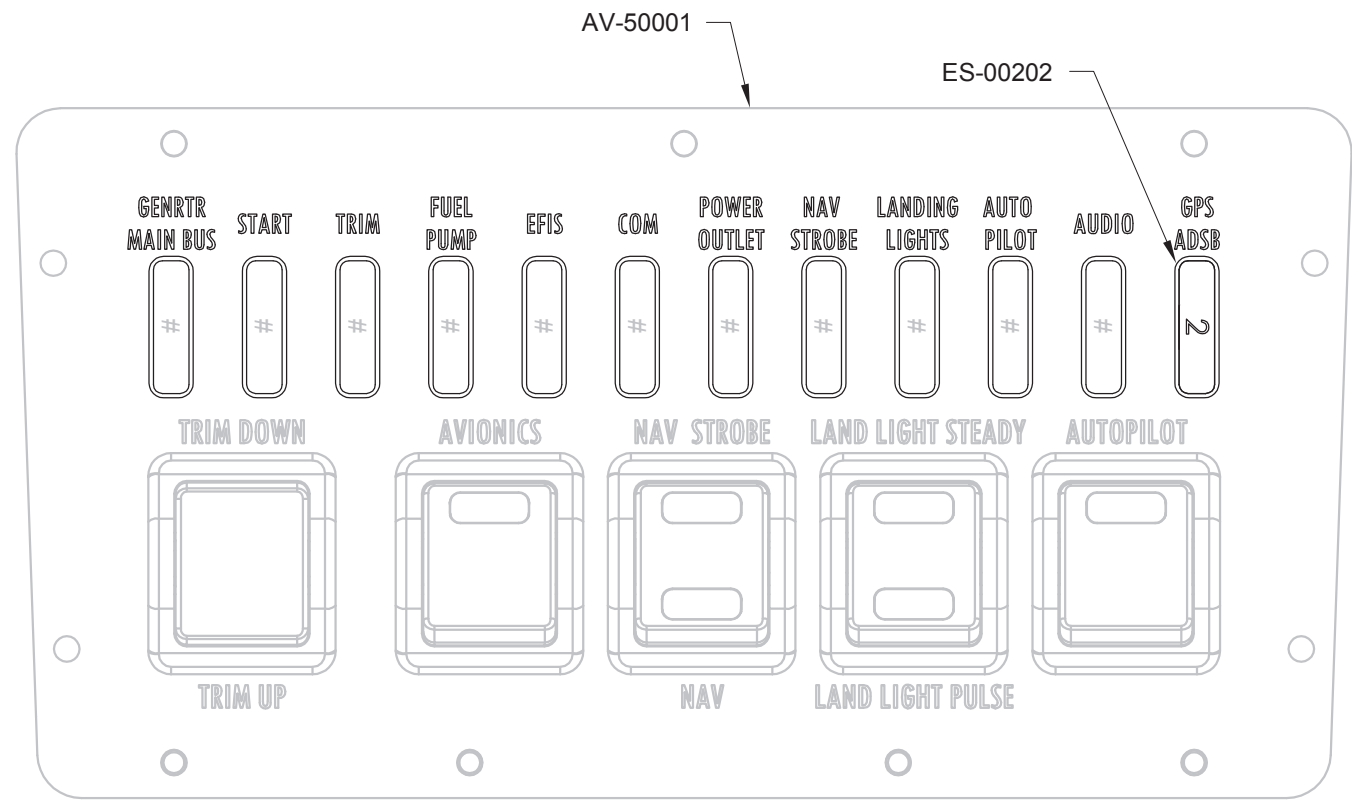

FIGURE 2: INSTALLING THE FUSE
Step 2: Install fuse called out in the AV-50001 Power & Switch Module as shown in Figure 2.